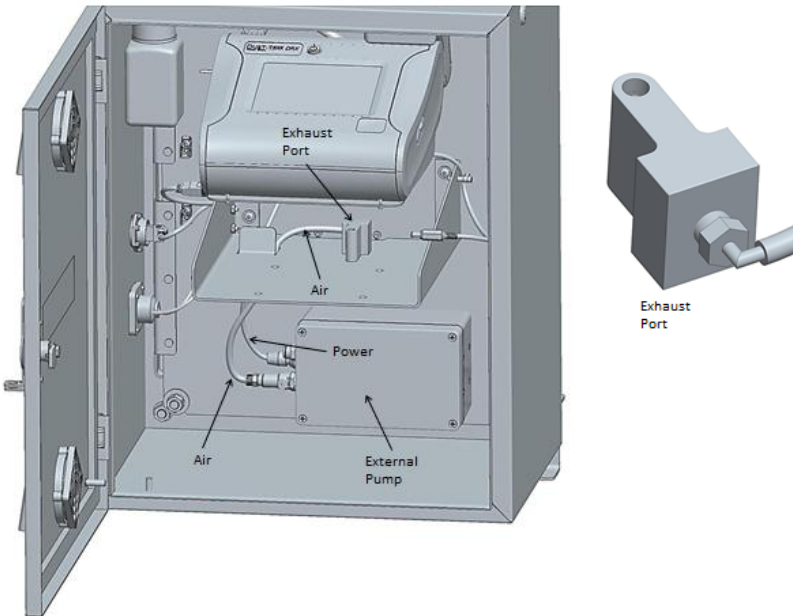

Figure 17: Connect External Pump to DustTrak Monitor
5. Remove the black tube from one of the quick disconnect fittings and slide tube over the barb of the 90° Fitting. Attach Air line from exhaust port of the DustTrak monitor to the inlet port of the external pump and attach external pump control cable to the DustTrak monitor as shown in Figure 17. Review 8530/33-EP manual for details on the air and control cable connection.